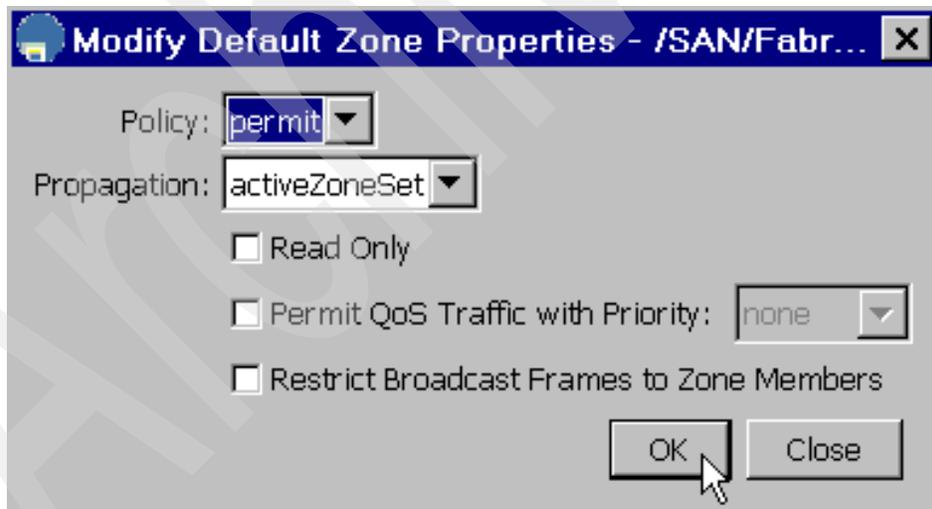

Figure 51 Modifying properties
3. Set the policy to permit if it is not already set and click **OK** (Figure 51).